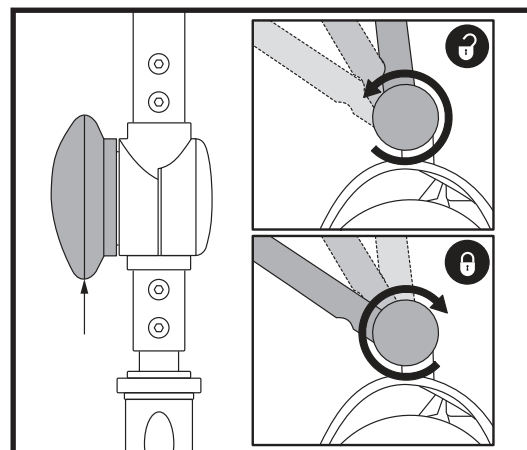

Figure 22. Tiller Adjustment Knob
TILLER ANGLE ADJUSTMENT (See figure 22)
1. With the seat and battery pack removed (see Disassembly Procedures on previous page), lower the tiller and tighten the tiller adjustment knob. **See figure 22.**